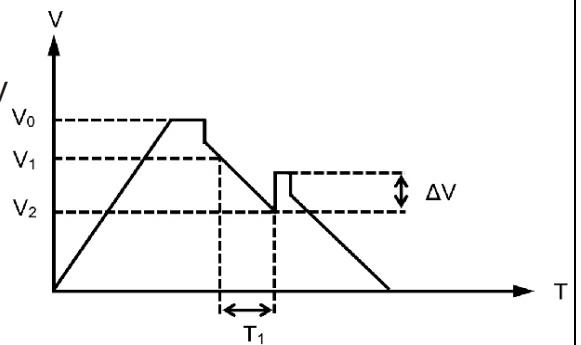

Figure 1
- 1) Charge and Discharge procedure (Figure 1)